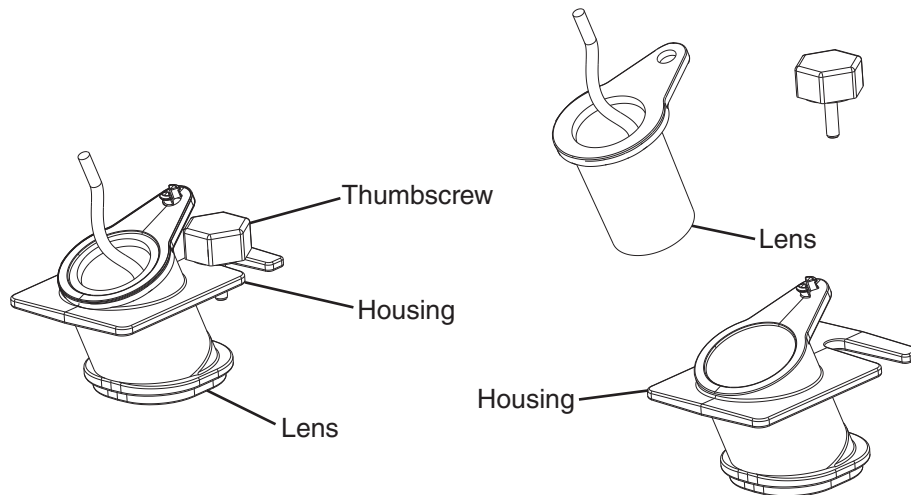

Fig. 5
- 4) Confirm that BC1 is connected to CB K10 connector. Wipe down BC1 lens with a warm, clean, damp cloth. If the bottom of the icemaker is not accessible in your application, remove the thumbscrew securing the BC1 housing, then remove the housing from the base. See Fig. 5.
8) CB "GM" and "COMP" LEDs are on. Use an object to cover BC1 lens at the bottom of the icemaker. If the bottom of the icemaker is not accessible in your application, remove the thumbscrew securing BC1 housing, remove the housing from the base, then cover BC1 lens. See Fig. 5. The CB BC1 "BIN FULL" orange LED on turns on. After the orange LED turns on, BC1 shutdown delay timer starts. See "III.B.2b. BC1 (Ultrasonic Sensor) Shutdown Delay (S2 dip switch 1, 2, 3)." Comp (LLV/SLV on MLJ model) should de-energize immediately after the shutdown delay timer terminates. 5 min. later, GM and FM/FMR should de-energize.